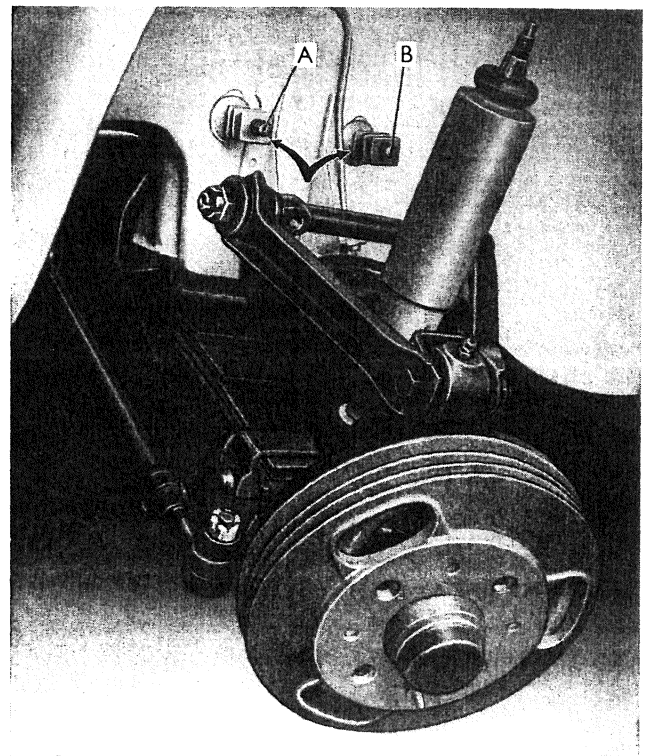

Fig. 286 - Adjusting front wheel camber and caster.
— if caster angle must be increased (β , fig. 277) move shims from rear screw (B) to front screw (A) (fig. 286);
— if caster angle must be reduced (β , fig. 277) move shims from front screw (A) to rear screw (B) (fig. 286).
— if camber angle must be increased (α , fig. 276) add the same number of shims on both screws (A and B, fig. 286);
— if camber angle must be reduced (α , fig. 276) remove the same number of shims from both screws (A and B, fig. 286).